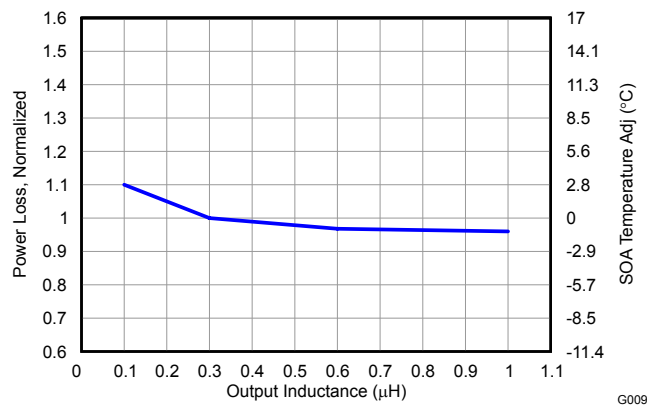

Figure 15. Normalized Power Loss vs Output Inductance
- Normalized Power Loss for output inductor \approx 1.06 (Figure 15)
- SOA adjustment for output inductor \approx 1.6 $^{\circ}$ C (Figure 15)